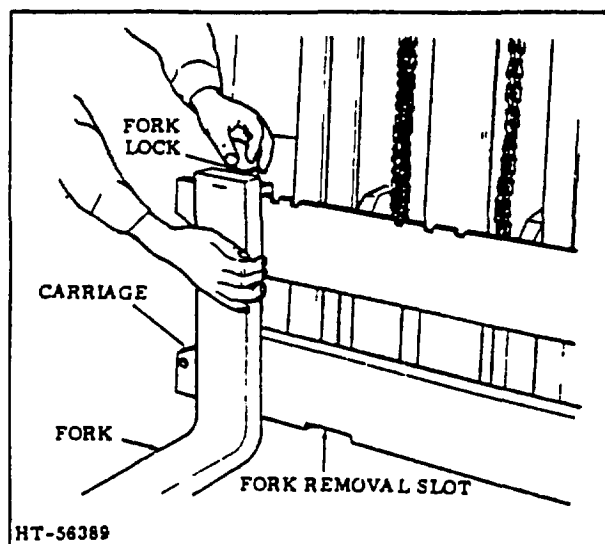

Figure 6. Fork Adjustment and Removal
A fork lock (Figure 6) is installed in the top of each of the hook type forks to hold it in position in one of the
The forks can be easily removed from the carriage by releasing the locks and aligning each fork with the wide removal slot (Figure 6) at the bottom of the fork carriage. (Refer to following REMOVAL procedures for detailed instructions.)
2. Release the fork lock pin and slide fork to a position over the cut-out in the lower carriage bar (Figure 6).